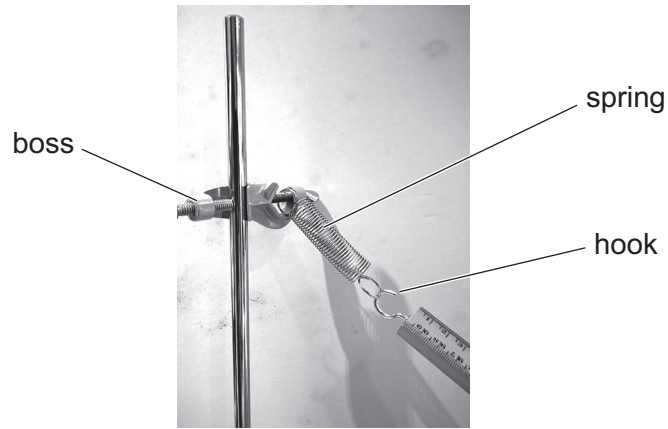

Fig. 4.2
1. A small hook should be screwed into one end of the metre rule. This hook will be attached to one end loop of one of the springs. The screw of the boss should pass through the other end loop of this spring, as shown in Fig. 4.2.